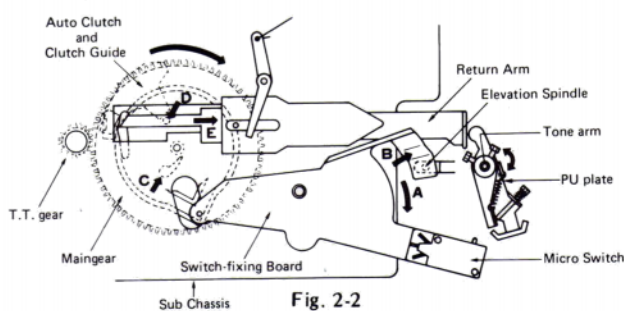

Fig. 2-2
- 3) As soon as the main gear starts rotating, the switch-fixing board will move in the direction shown by arrow "A" (See Fig. 2-2) and the elevation spindle of the